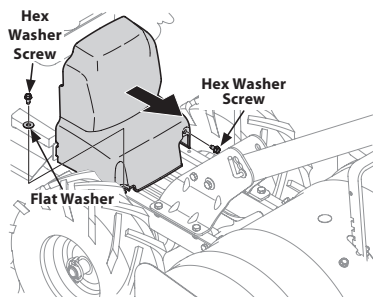

Figure 17
- Remove the belt cover as seen in Figure 17, by first removing the two 1/4-20 hex washer screws and one flat washer. Lift the belt cover up and away from the tiller and set in a safe location until reinstallation.